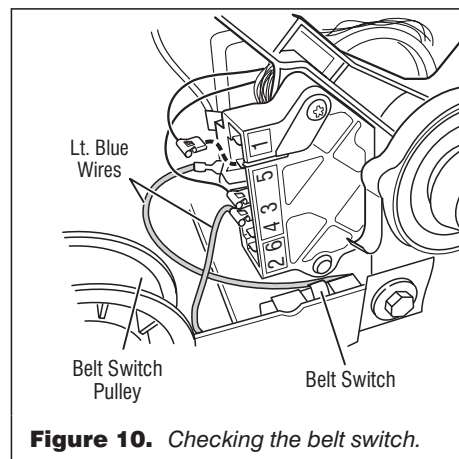

Figure 10. Checking the belt switch.
8. Check the belt switch by measuring resistance between the two light blue wires, as shown in figure 10, while pushing up the belt switch pulley.